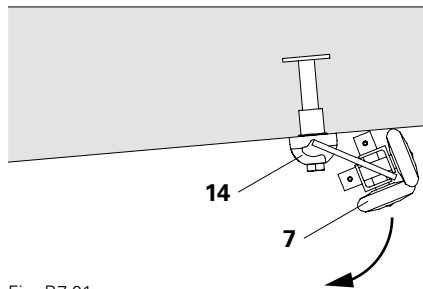
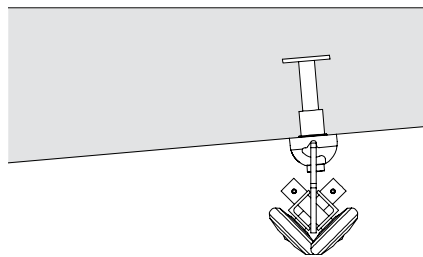

Fig. B7.01a
Fig. B7.01b
1. Laterally insert Roller Unit VARIOKIT (7) into the Suspension Head M24 VARIOKIT (14). (Fig. B7.01a)
2. Pivot the Roller Unit VARIOKIT (7) downwards.
Roller Unit VARIOKIT (7) pivots into the vertical end position as a result of gravity. (Fig. B7.01b)